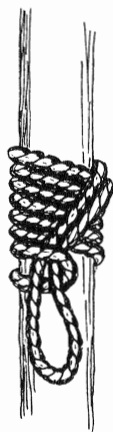

Figure 27. If a spliced grommet (fixed loop) is used, wrap it around the spar and finish it as shown. Then you can hook tackle in the bight of the grommet.
- To hook a light tackle to use in lifting (see figure 27)